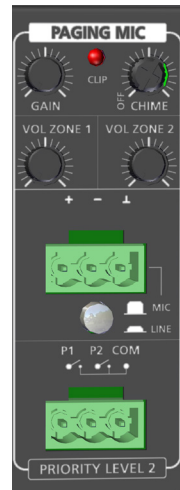

Figure 3. Paging Mic
1. See Figure 3. Connect the microphone - the Euroblock accepts balanced microphone or line level signals.